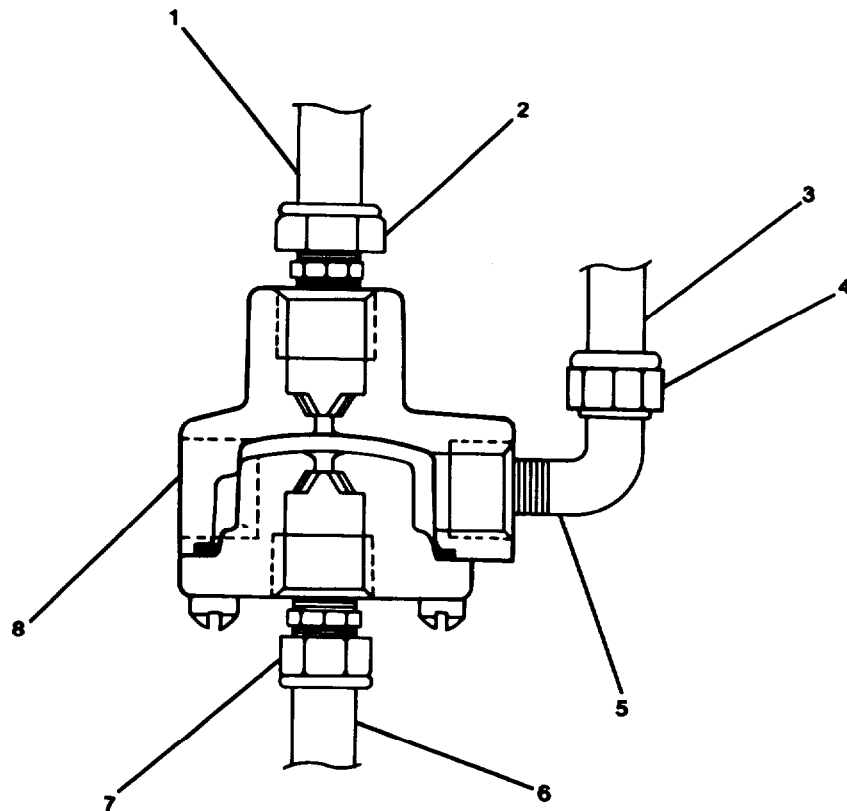
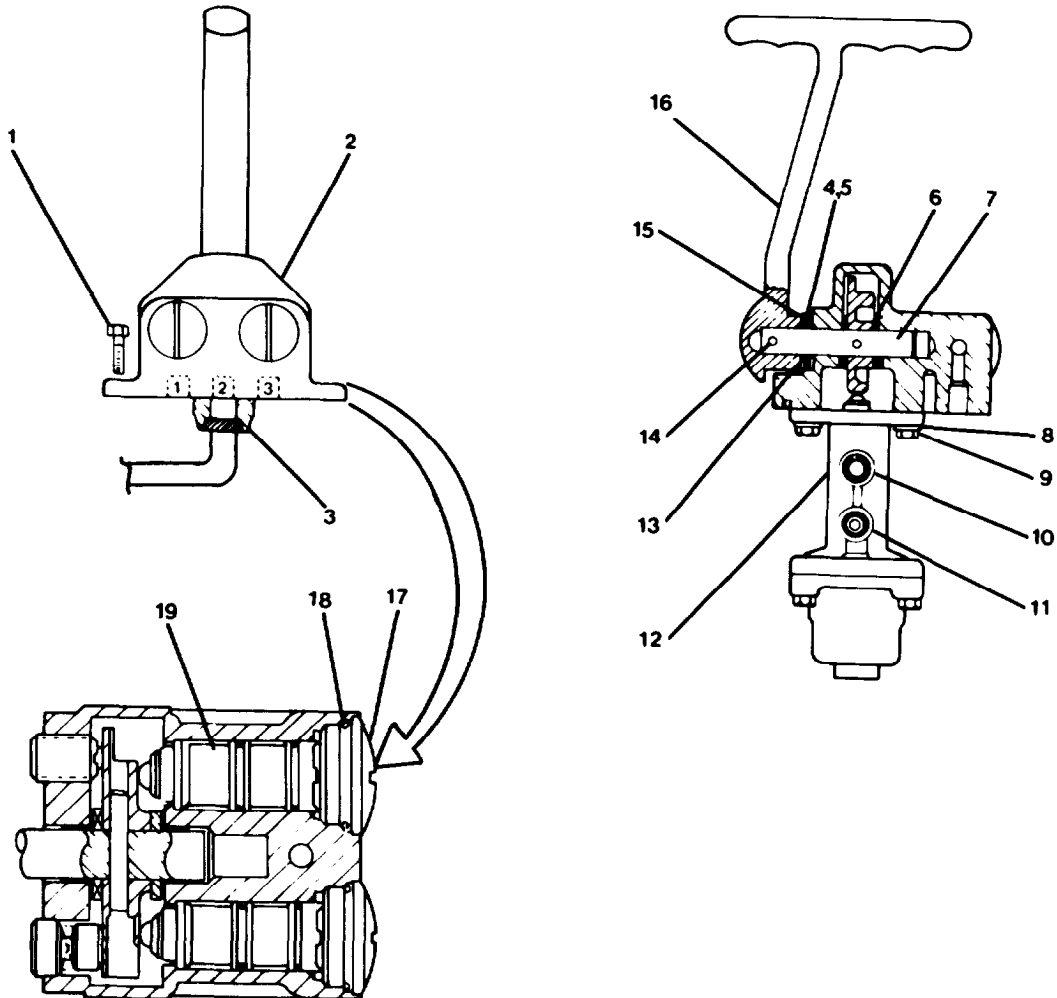

FIGURE 2-96. Shuttle Valve.
FIGURE 2-97. Directional Control Rotary Valve.
- a. Remove shuttle valve. (FIGURE 2-96)
- (1) Disconnect tubing (1, 3, and 6) at connections (2, 4, and 7).
- (2) Remove shuttle valve (8).
- (3) Unscrew and remove elbow (5).
- b. Remove Directional Control Rotary Valve (Pilothouse Control Station). (FIGURE 2-97).
- (1) Remove four capscrews (1).
- (2) Pull directional control rotary valve (2) up and out of control console until flexible hoses are accessible.
DISASSEMBLY (FIGURE 2-97)
Repair at this level of maintenance is by replacement of: shuttle valve (8, FIGURE 2-96), thrust washer bearing (4, FIGURE 2-97), roller needle bearing (5), spring tension washer (13), preformed packing (18), and poppet valve (19).
ASSEMBLY (FIGURE 2-97)**NOTE**
(FIGURE 2-97)
- (1) Connect flexible hoses at connections (3, 10, and 11). Remove tags.
- (2) Install directional control rotary valve (2) in pilothouse control console. Secure with four capscrews (1).
- b. Install Shuttle Valve. (FIGURE 2-96)
- (1) Screw elbow (5) into shuttle valve.
- (2) Position shuttle valve (8) for connection to tubing.
- (3) Connect tubing (1, 3, and 6) at connections (2, 4, and 7).